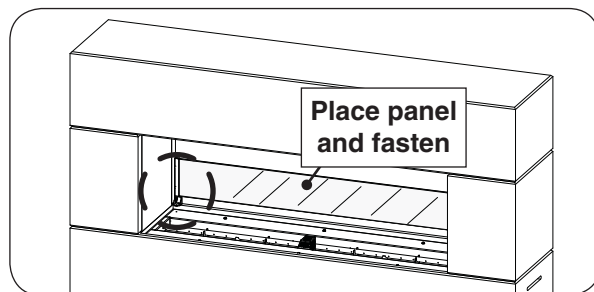
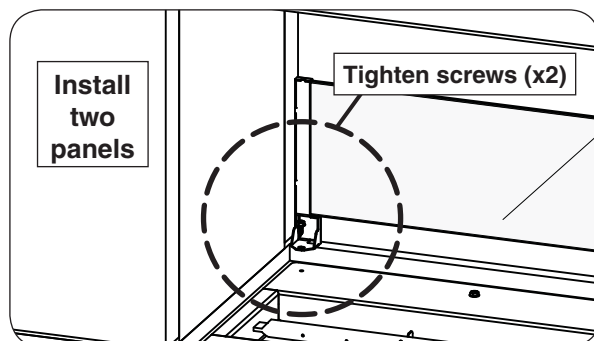

Fig. 21-3 Place wind guard
Fig. 21-4 Install screws
1. Place one of the wind guard panels into the burner area, ensuring that it is centered. While holding, use a $\frac{5}{16}$ " nut driver and two of the supplied screws to fasten the panel in place. See Fig. 21-3 and Fig. 21-4.